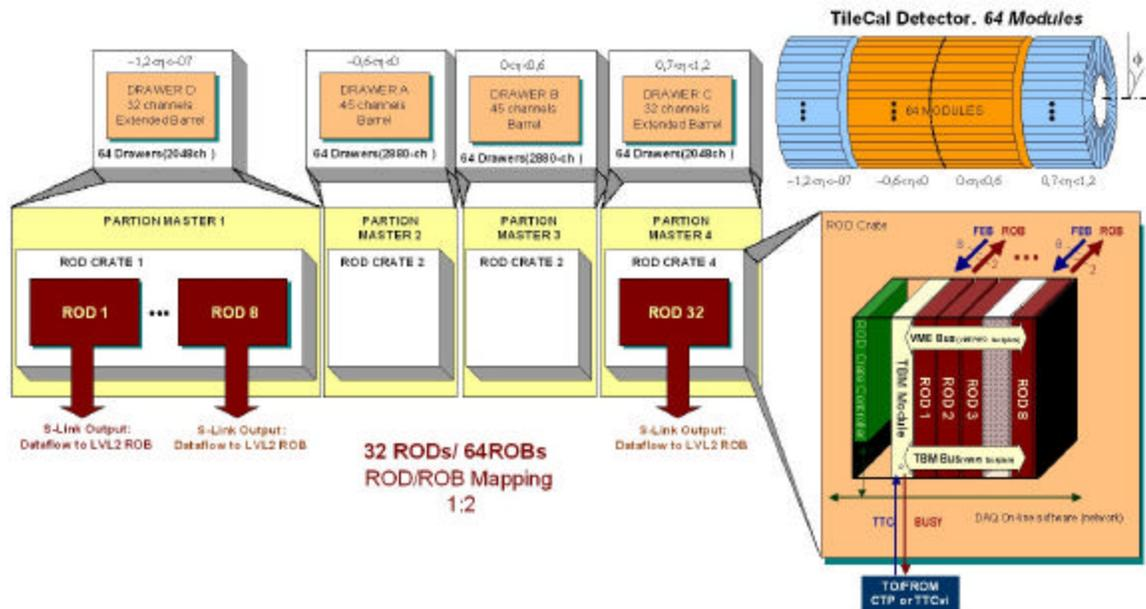

Figure 7: Scheme of the ROD back-end electronics
The ROD Final motherboard (MB) is a 9U VME module [1] which can read up to 8 optical fibres from the TileCal front-end electronics (drawers). It has up to 4 mezzanine cards, called Processing Units (PUs), to process the data online before sending it to the Transition Module (TM) [3] installed at the back of the VME crate. Figure 7 shows a scheme of the back-end electronics for TileCal.